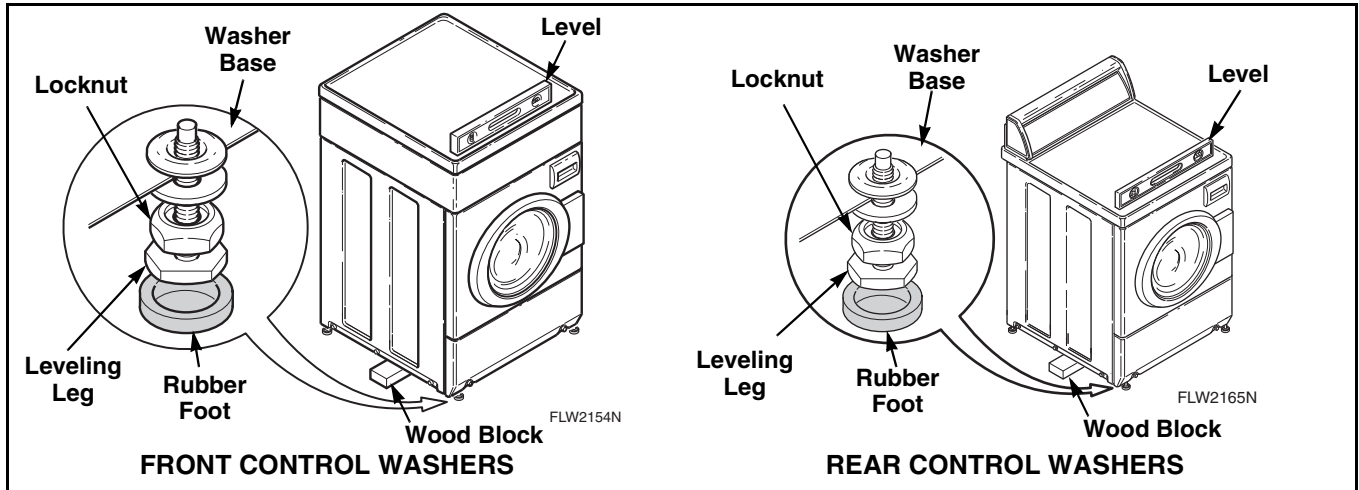

Figure 4
- b. Place level on washer, refer to *Figure 4*, and check if washer is level from side to side and front to back.
NOTE: Level must rest on raised portion of top panel. Refer to *Figure 4*.
- c. If washer is not level, tilt washer to access front and rear leveling legs. For easier access to leveling legs, prop up washer with wooden block. Refer to *Figure 4*.
- d. Loosen locknuts and adjust the leveling legs until the washer is level from side to side and front to back (using a level). **Make sure washer does not rock.** Refer to *Figure 4*.
- f. Place rubber feet on all four leveling legs. Refer to *Figure 4*.
- i. Loosen one front leveling leg locknut. Refer to *Figure 4*.